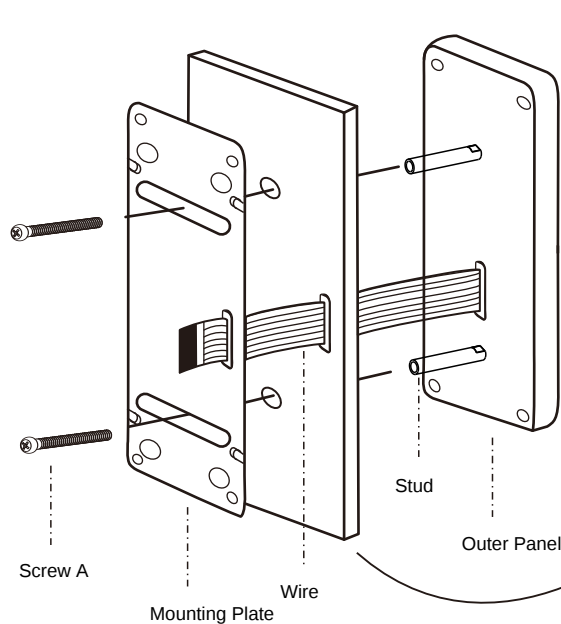
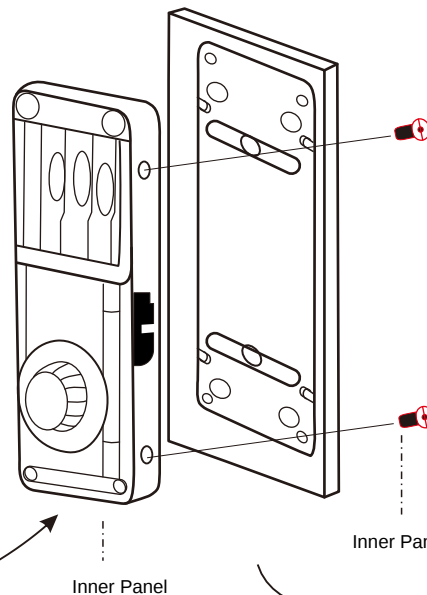

Fig.1
Fig.2
1. Remove the screws on the side of the inner panel host (Fig. 1). Lift the flat cable on the connector to release the lock and unplug it (Fig. 2).
3. Install studs on the outer panel and tighten. Mount the outer panel on the door and thread the wire through the door hole (Fig. 1).
4. Mount the mounting plate on the door. Align Screw A with the studs and tighten (Fig. 1).
5. Install the inner panel on the mounting plate and tighten with the inner panel screws (Fig. 2).